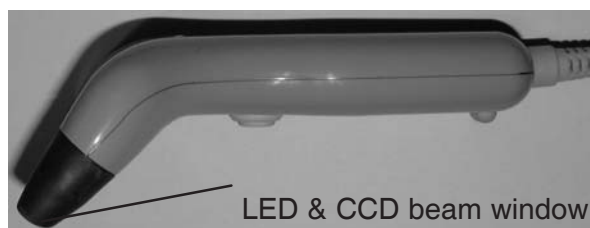

Figure 3 – bar code scanner – side view
1. Hold the scanner handle horizontally (Figure 3 – ) directly over the bar code.